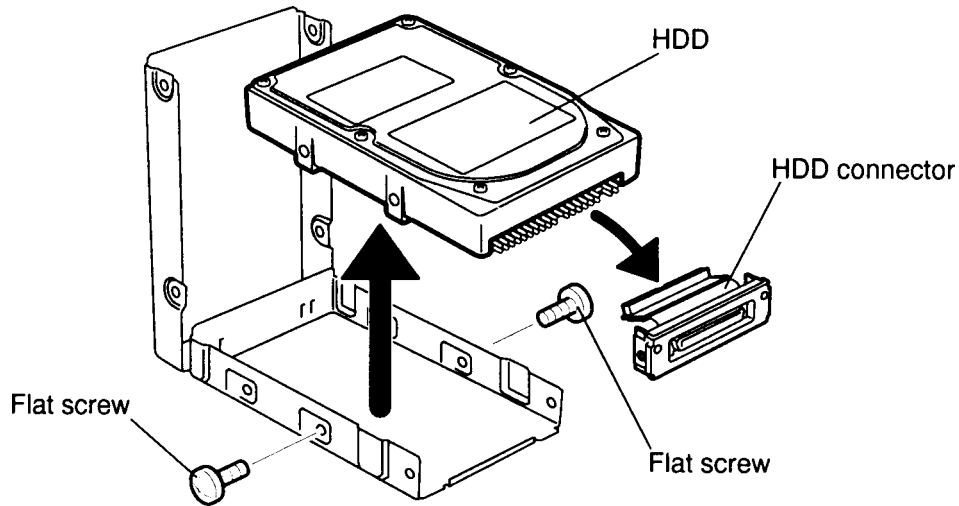

Figure 4-10 Removing the HDD
9. Remove the **two flat screws** securing the **HDD** to the case and lift out the HDD (Figure 4-10).
10. Carefully pull off the **HDD connector** (Figure 4-10).
To install the T4850CT's HDD, follow the steps below and refer to Figures 4-10 back through 4-7.
1. Connect the HDD connector to the HDD. Fit the slot on the bottom of the connector into the groove on the case and seat the HDD into the case (Figure 4-10).
2. Align the screw holes in the HDD and case, then secure the HDD with **two flat screws** (Figure 4-10).